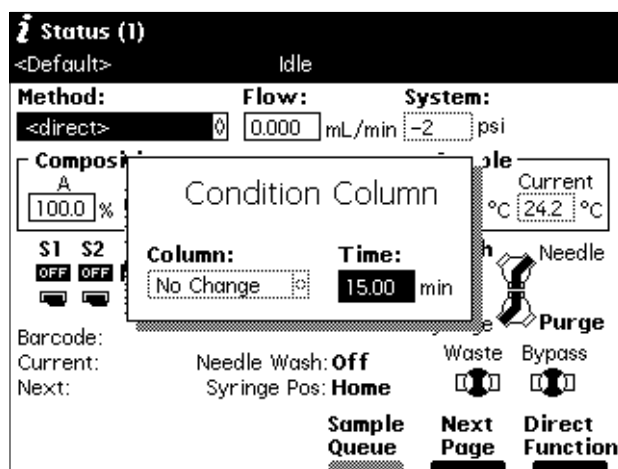

Figure 4-13 Condition Column Dialog Box
4. Select **Condition Column**, then press **Enter**. The Condition Column dialog box appears (see Figure 4-13).